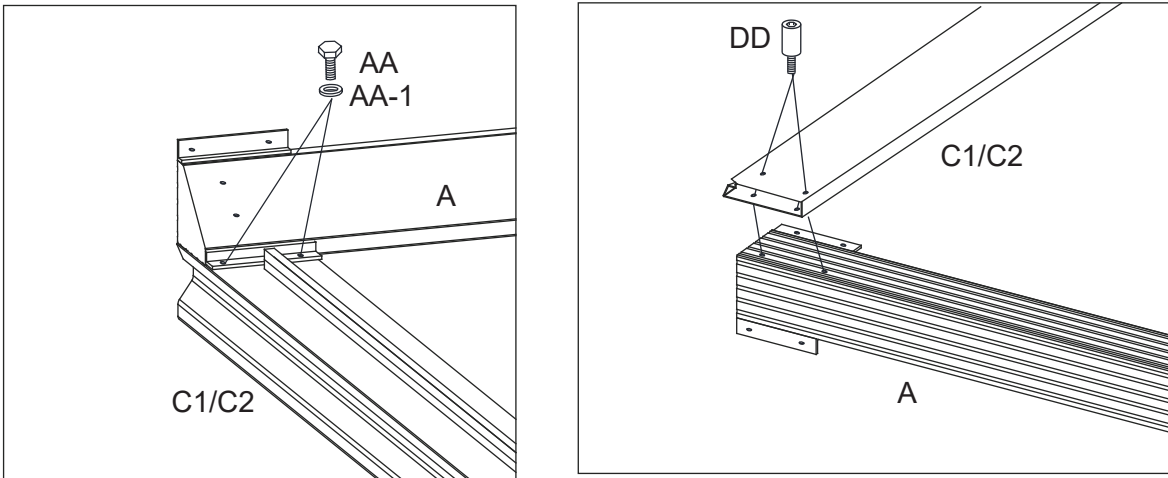

Figure 3-1
3.1: Attach Lintels (C1 and C2) to end of Corner Posts (A) first with Bolts (AA) and washer (AA-1) then with Bolts (DD). Tighten all Bolts. See Figure 3-1.